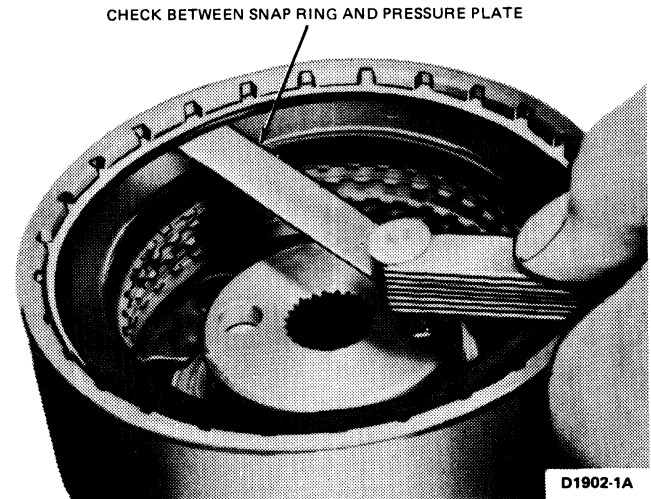

FIG. 76 Checking Forward Clutch Snap Ring Clearance
6. **With a feeler gauge, check the clearance between the snap ring and the pressure plate (Fig. 76). Downward pressure on the plate should be used when making this check. The clearance should be 0.635-1.27mm (0.025-0.050 inch).**